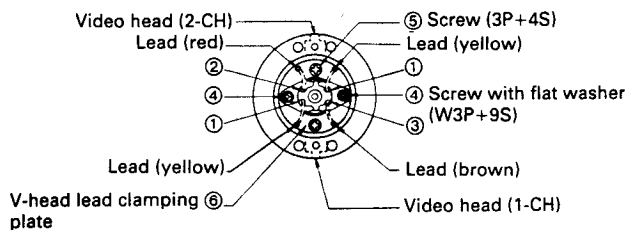

Figure 26.
- 1) Install the replacing drum as shown in Figure 26 and direct it so that the leads of specific colors come just as illustrated.